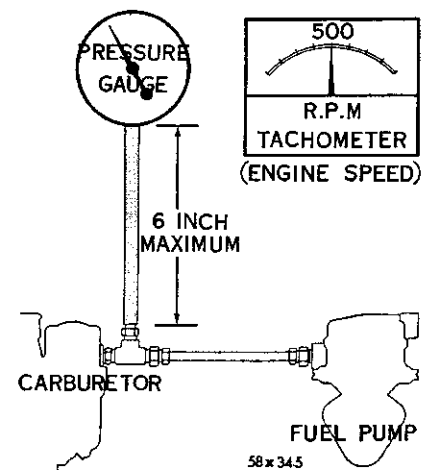

Fig. 80—Pressure Testing the Fuel Pump
(1) Insert a "T" fitting in the fuel line at the carburetor, as shown in Figure 80.
(2) Connect a 6 inch piece of hose between the "T" fitting and gauge Tool C-3411. (The hose should not exceed 6 inches. A longer hose may collect fuel and the additional weight would be added to the pressure of the pump and result in an inaccurate reading).
(3) Vent the pump for a few seconds (this relieves any air trapped in the fuel chamber). If this is not done, the pump will not operate at full capacity and a low pressure reading will result.
(4) Connect a tachometer, then start the engine and run at 500 r.p.m. The reading should be from 3½ to 5 p.s.i. The pressure should remain constant or return to zero very, very slowly when the engine is stopped. An instant drop to zero indicates a leaky outlet valve. If the pressure is too low, a weak main spring or improper assembly of the diaphragm may be the cause. If the pressure is too high, the main spring is too strong.